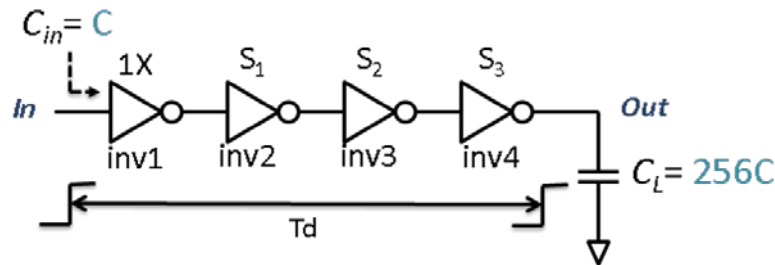

Fig. 1(a) Inverter Chain
- (a) For inverters in Fig. 1(a), pick the best sizing factors, S_1 , S_2 and S_3 to minimize propagation delay, T_d . What is the minimum delay (in units of t_{inv})? (5 pts)